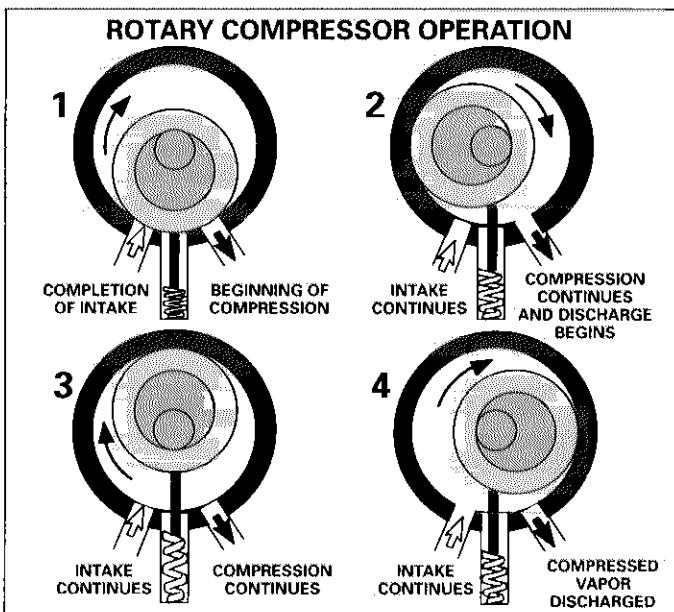

FIGURE 11
Figure 11 illustrates the four steps in a rotary compressor's continuous intake cycle. The spring-loaded blade is compressed fully at the beginning of an exhaust cycle. At this instant the compression is beginning (1). The roller rotates and compression continues (2). The suction port is always separated from the discharge port (3). Intake continues and the compressed vapor is discharged (4).